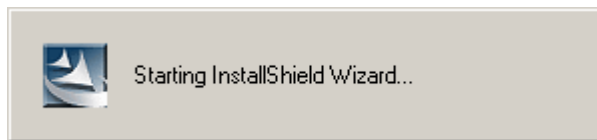

Figure 7-30: The InstallShield Wizard Starts
Step 7: The InstallShield Wizard starts (Figure 7-30).